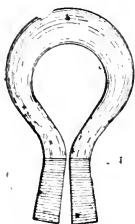

Fig. 188.
The dock (Fig. 188) that is placed under the tail is made of soft close-grained leather, 1 ft. 3 in. in length, and tapered from the centre on each side to about $\frac{7}{8}$ in. when doubled over at the points. Groove it carefully along the edges at a slight distance therefrom, and stitch it loosely with three-cord fine hemp, about six per inch, merely pulling the stitches home; then damp it well.
- Fig. 188.—Crupper Dock.